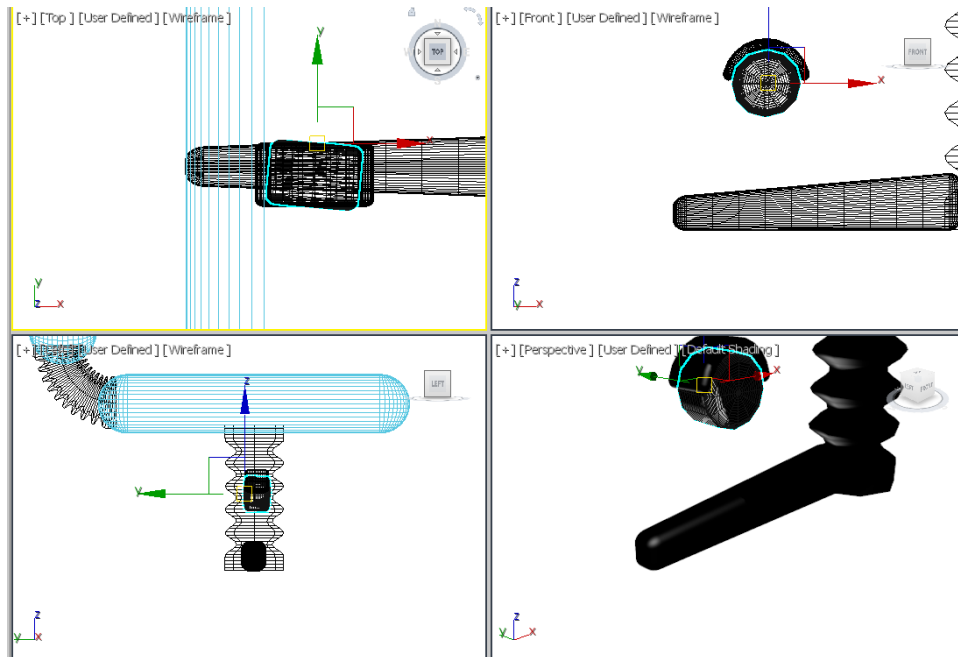

Figure 3-42 Alignment of *cylinder01* with *box01* in viewports
14. Align *cylinder01* with *box01* in the viewports using the **Select and Rotate** and **Select and Move** tools, refer to Figure 3-42.